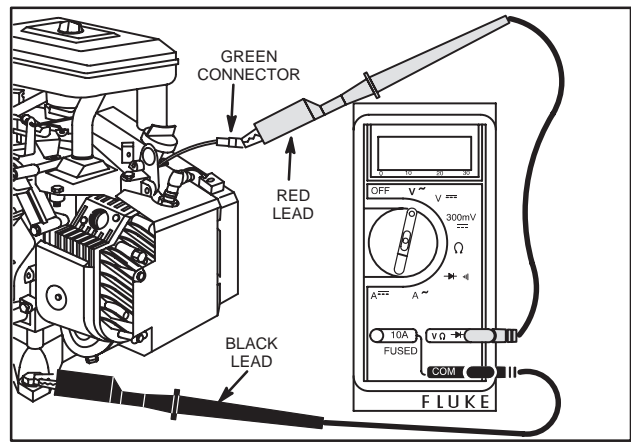

Fig. 22 – Testing AC Output
4. Attach RED test lead clip to output terminal, Fig. 22.